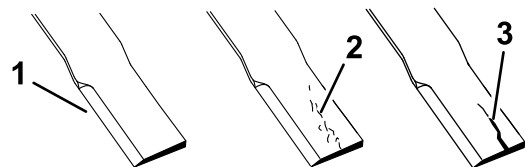

Figure 36
1. Inspect the cutting edges (Figure 36).
4. If you notice any crack or wear, immediately install a new blade (Figure 36).